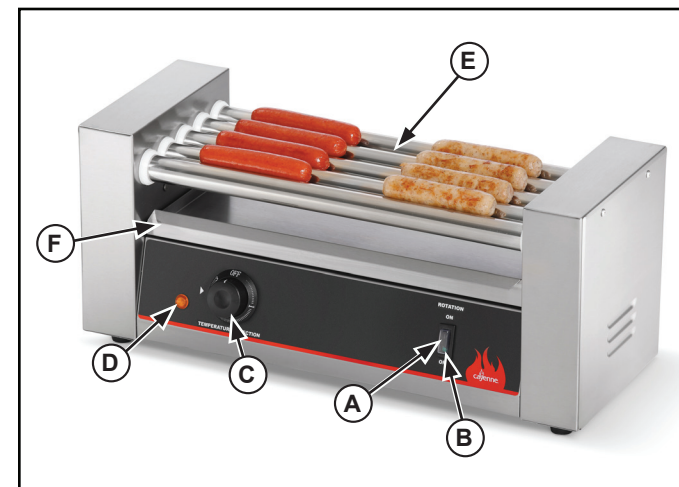

Figure 1. Features and Controls.
2. Set the drip tray (F) in place. See Figure 1.
3. Switch the power switch (A) to the ON position.
4. Turn temperature control (C) to desired temperature setting and preheat for 15 minutes.
5. Set precooked food product onto the rollers (E).
1. Switch the power switch (A) to the OFF position. See Figure 1.
4. Wipe the rollers (E) with a clean dry cloth. See Figure 1.
8. Remove, empty and clean the drip tray (F). Place the drip tray into the equipment.